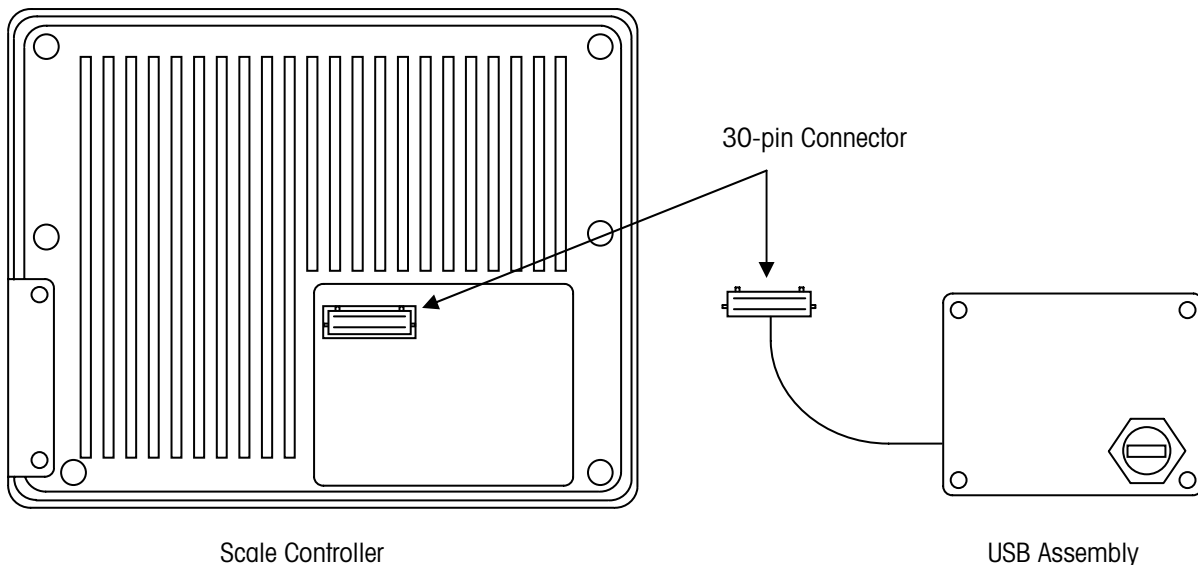

Figure 9-1: USB Assembly Installation
2. Plug the 30-pin connector wired to the USB assembly into the 30-pin connector on the main PCB inside the scale controller (see Figure 9-1). The connectors are keyed to prevent them from being installed incorrectly. Make sure that the keys are aligned correctly when you plug the connectors together.